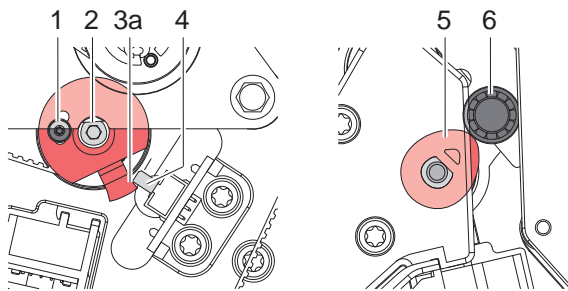
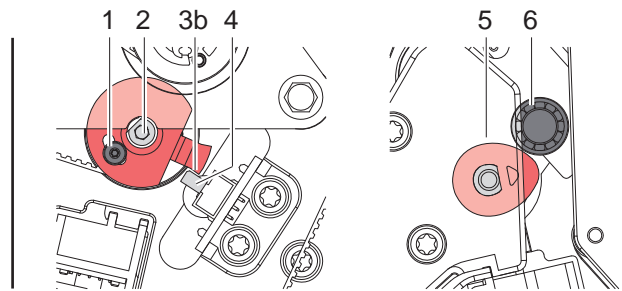

Fig. 29 Eccentric in saver mode
Fig. 30 Eccentric in print mode
4. Loosen the screws (1) at the clock wheel.
5. Turn axle (2) in such a way that the eccentrics (5) lift the printhead via the ball bearings (6) at most ► Fig. 29 .
6. Adjust a minimum gap between flange (3a) and the edge of the sensor housing (4) by turning the clock wheel ► Fig. 29.
7. Tighten screw (1).
8. Turn axle (2) in such a way that there is a minimum gap between flange (3b) and the other edge of the sensor housing ► Fig. 30.